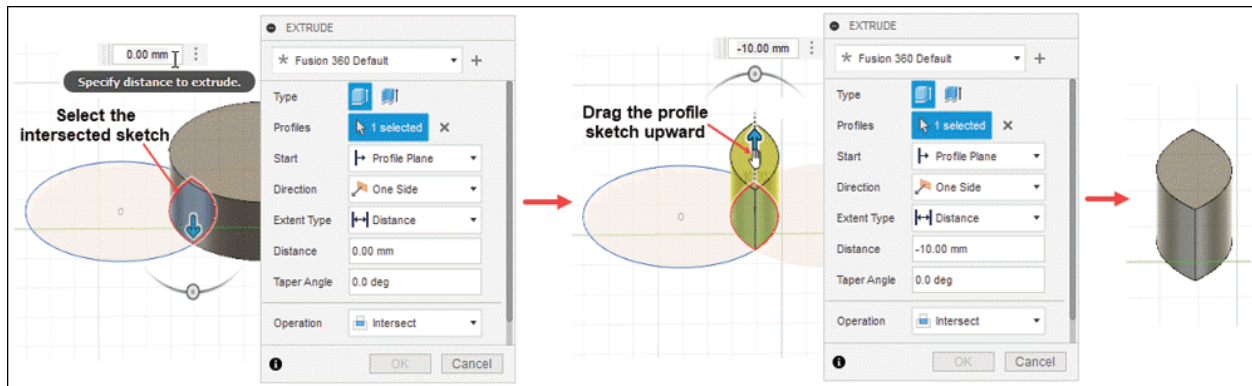

Figure-45. Intersect tool
- Select **Intersect** option from **Operation** drop-down if you want to create the region commonly bounded by extrude feature and intersecting solid bodies; refer to Figure-45.